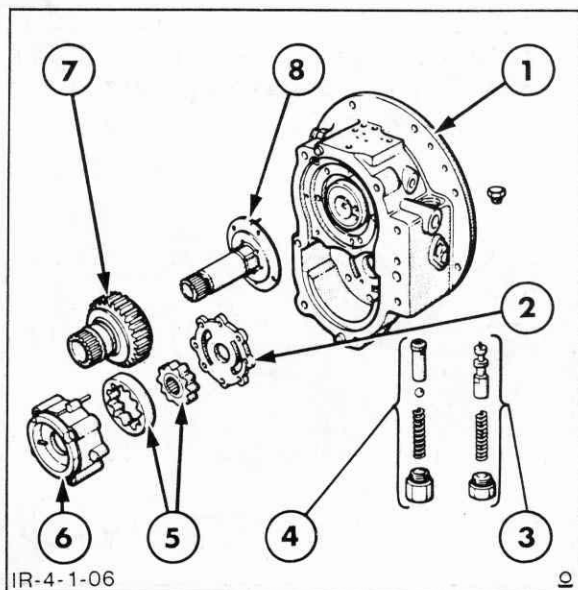

Figure 4-173
4. Remove the hydraulic pump retaining bolts and lift the pump assembly from the distributor housing, Figure 4-173.
5. Remove the by-pass valve plug and extract the shim, spring ball and valve, Figure 4-173.
3. Assemble the transmission hydraulic pump components as shown in Figure 4-173. Install the pump onto the distributor housing and secure with the retaining bolts. Tighten the bolts to 19 ft. lbs.